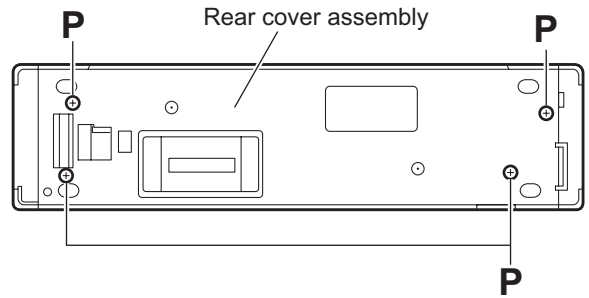

Fig.15
3.1.10 Removing the front board (See Figs.15 to 17)
- (1) From the rear side of the front panel assembly, remove the four screws **P** attaching the rear cover assembly to the front panel assembly. (See Fig.15.)